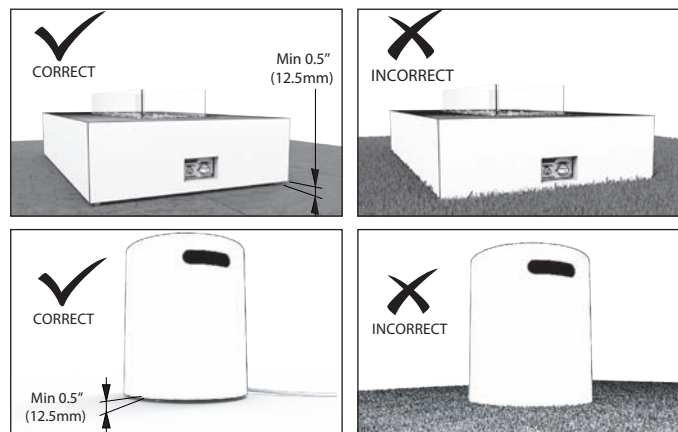

Figure 1
1. Locate the appliance and the LP tank cover on hard, flat surface that extends the full length and width of the appliance. The appliance and the LP tank cover can be placed on combustible surface (such as wood deck) or on non-combustible material (such as concrete). Ensure all clearances to the sides and clearances above the appliance are observed at all times (see figures 1 and 2).
3. Do not place the appliance over grass, artificial turf, carpet or any uneven surface, as this will block the airflow underneath the appliance. See figure 1.
4. Follow the same instructions above for the LP tank cover (if purchased). See figure 1.